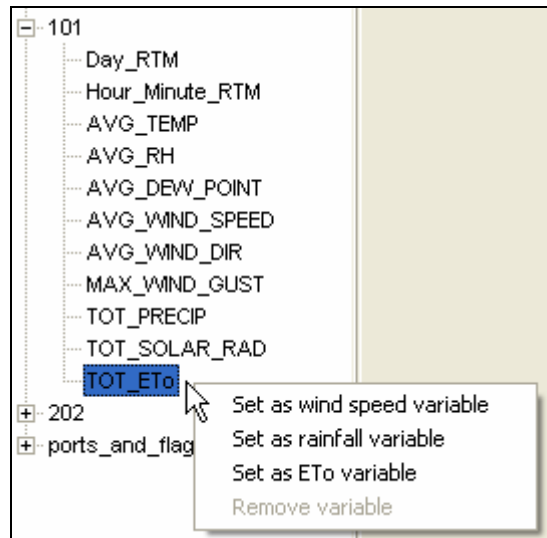

Figure 10.0.10
- Right click on this folder to open up the **selections** window (Figure 10.0.10).